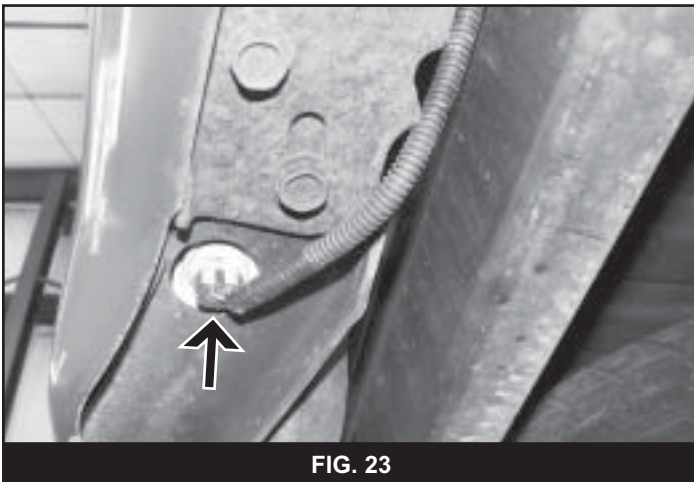

FIG. 23
33. Disconnect the license plates lights from the rear bumper (Fig 23).